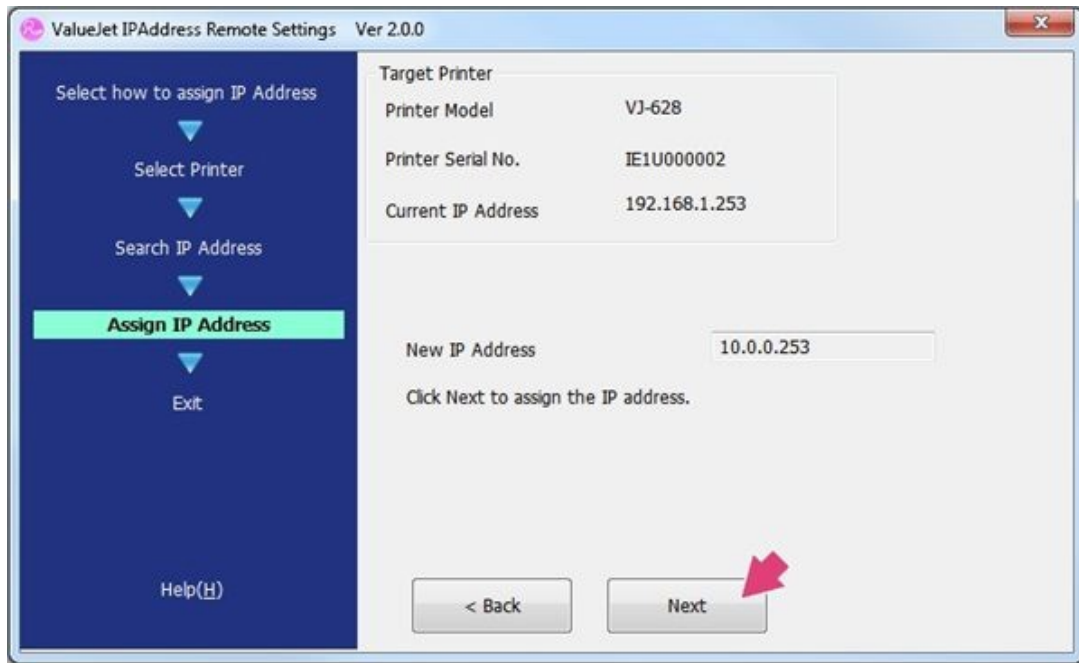

Figure 25
12. Select **Next** to confirm the new IP address. See Figure 25.